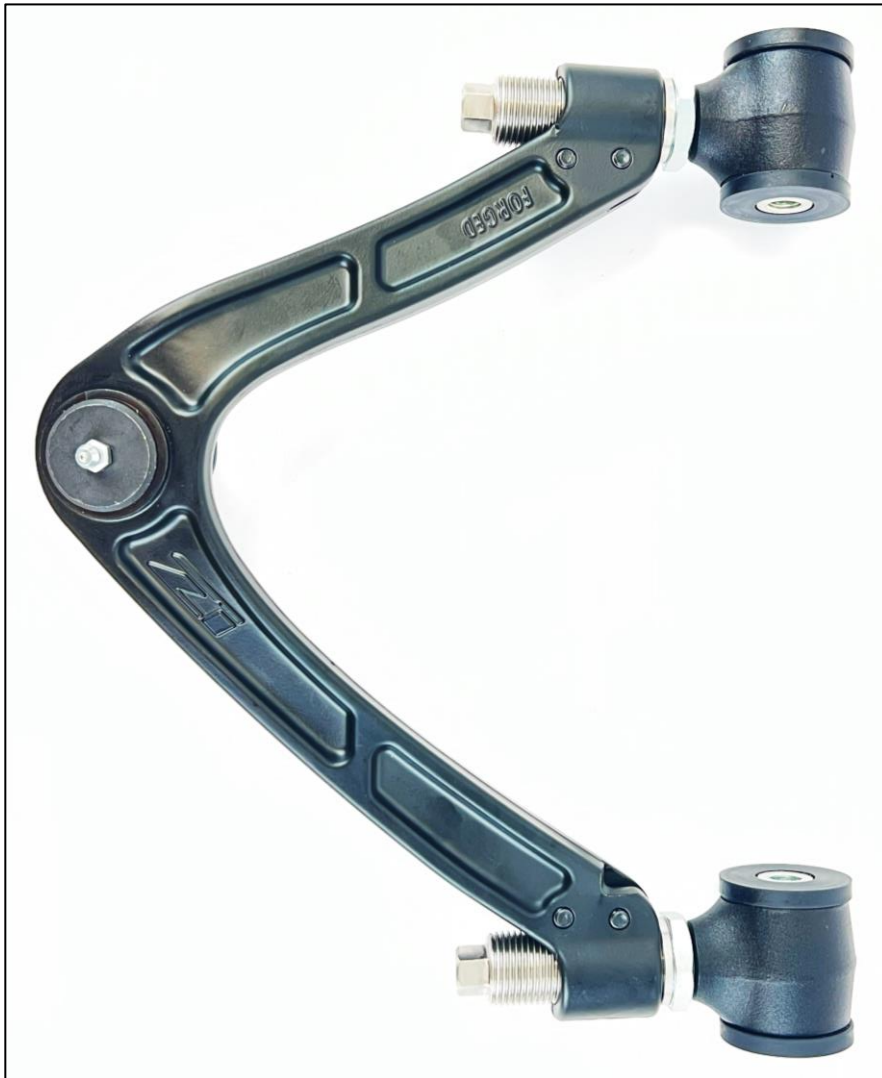

Figure 5
15. Locate the Z1 FUCA and Control Arm Ends. Thread (2) two Pre-Assembled Solid Heim Joint Assemblies **FULLY** into the Z1 FUCA. Remove the Zip Ties that secure the Conical Spacers to the Heim Joint.
16. Make sure the ends are fully threaded into the Z1 arm with the Grease Fitting on the bottom (as shown below). If the ends are not straight when fully threaded in (with grease fitting pointed down), rotate the Double Adjuster, not the end, until they are straight (as shown below). *Figure 5.*